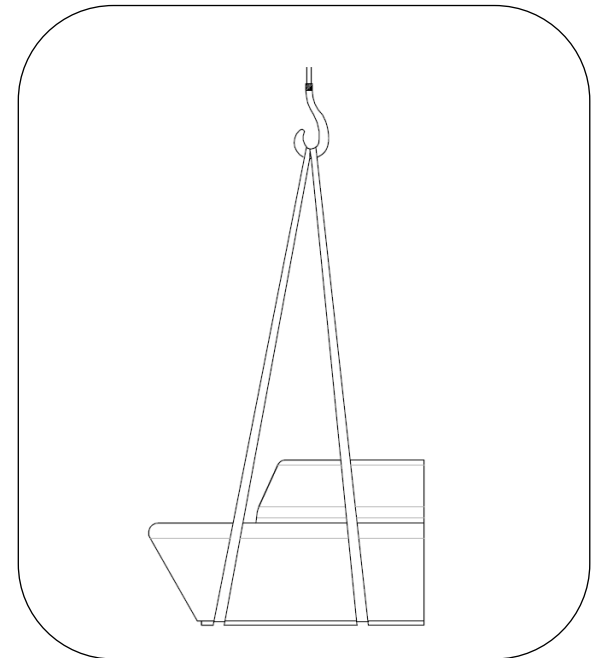

Fig. 1 – Crane install – strap locations
2. Set one section in position with proper equipment such as a forklift or crane. See Fig. 1. See included components section for proper placement to create finished planter. Repeat for remaining sections.